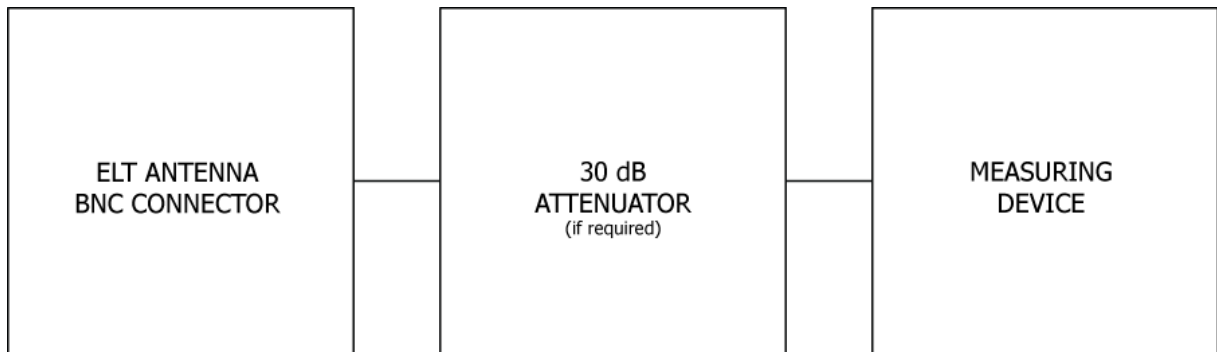

Figure 8 Performance Tests Equipment Setup
- 3) Ensure that adequate attenuation rated for 406 MHz is installed between the ELT antenna output and the measurement equipment to prevent damaging input circuitry, if required. At a minimum, the attenuator should be rated at 30 dB, and 5 watts for a 1/2-second duration as shown in Figure 8.